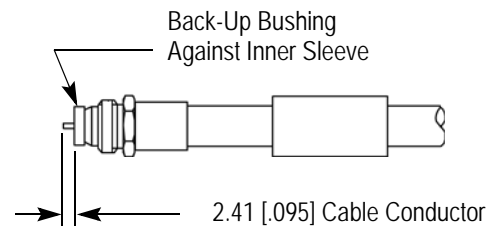

Figure 3
- Insert the inner sleeve into the retaining nut. Slide the assembly over the dielectric and under the braid until the assembly bottoms. Refer to Figure 3, Detail A.
flush with the end of the inner sleeve to expose the conductor. Refer to Figure 3, Detail B.
- Slide the back-up bushing onto the conductor until it butts against the inner sleeve. Trim and de-burr the conductor to the dimension shown in Figure 3, Detail C.